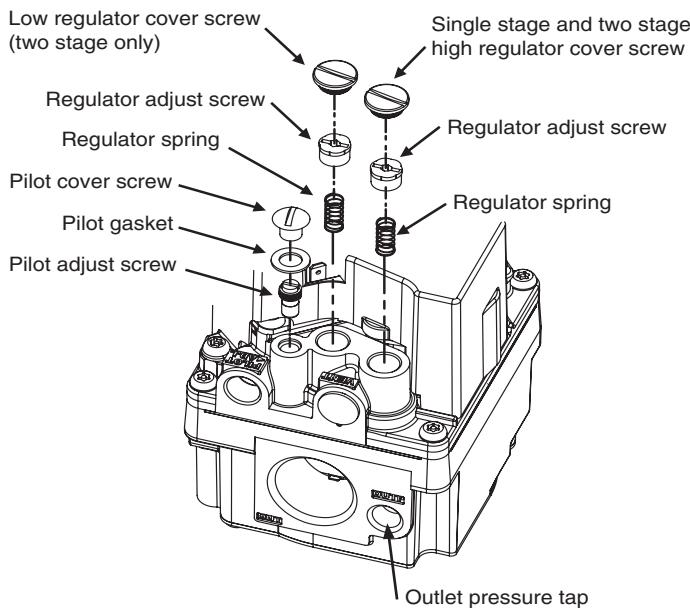

Figure 5. Pressure Adjustment
2. Remove plug and install hose barb fitting and manometer to pressure tap on outlet end of valve. See fig. 5.
4. (2-stage only) Remove regulator cover screw from the low outlet pressure regulator adjust tower (fig. 5) and turn screw clockwise (↷) to increase pressure, or counterclockwise (↶) to decrease pressure. Always adjust regulator according to original equipment manufacturer's specifications listed on the appliance rating plate. Replace regulator cover screw.
6. Remove regulator cover screw from the single stage or high outlet pressure regulator adjust tower (fig. 5) and turn screw clockwise (↷) to increase pressure, or counterclockwise (↶) to decrease pressure. Always adjust regulator according to original equipment manufacturer's specifications listed on the appliance rating plate. Replace regulator cover screw.
To adjust the pilot gas pressure, remove the cover screw (See fig. 5). **To REDUCE pilot pressure**, turn the pilot adjust screw (beneath the cover screw) clockwise (↷). **To INCREASE pilot pressure**, turn the pilot adjust screw counterclockwise (↶). Replace and tighten cover screw.
Para ajustar la presión del gas del piloto, retire el tornillo de la cubierta (vea la fig. 5). **Para REDUCIR la presión del piloto,** girre el tornillo de la cubierta (debajo del tornillo de la cubierta) en el sentido de las agujas del reloj ( ). **Para AUMENTAR la presión del piloto,** gire el tornillo de la cubierta en el sentido contrario a las agujas del reloj ( ).